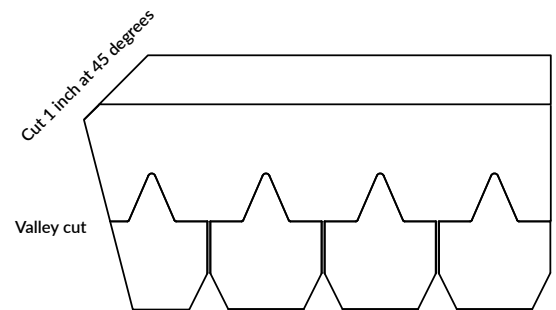

Figure 9
F-Wave recommends the use of an open valley method with a "W" style metal. Alternatively, F-Wave recommends the use of a tile/slate style closed valley method with a "W" style metal. For alternative valley installation methods, please visit f-wave.com and review our latest technical bulletin. It is important to note that all valley flashings should be in place before shingles are installed near the valleys. For application, start with a layer of a minimum of 36 inches (915mm) wide smooth-surface, non-granulated, self-adhering waterproofing membrane and apply directly to the roof deck. Next, the valley metal should be installed over self-adhering waterproofing membrane. Cut the top corner of the shingle going into the valley at a 1 inch (25mm) 45° angle. See **Figure 9**.
- Apply the first course of shingles along the eave until it meets the center of the valley. Trim the valley shingle so that it matches the chalk line and also has a 1 inch (25mm) 45° angle cut from the top of the shingle. See **Figure 9**.